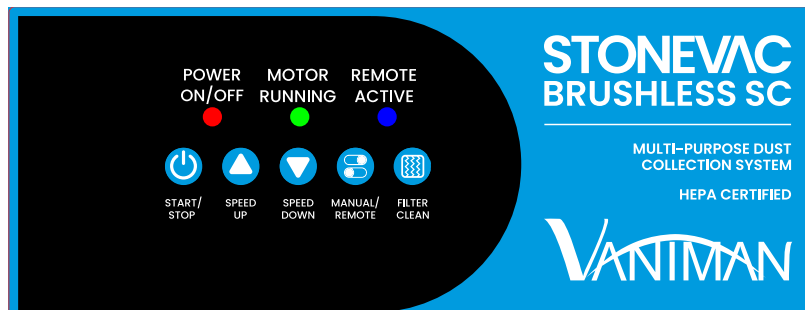
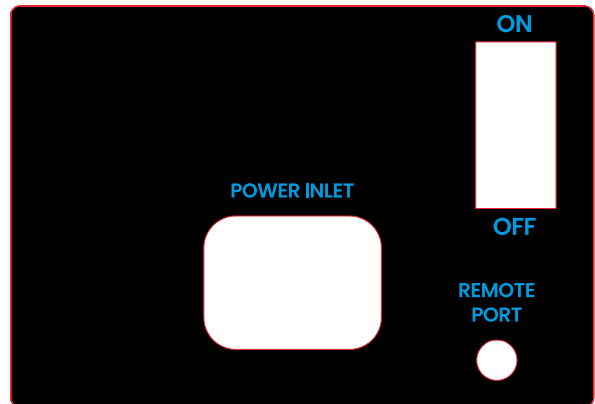

Fig. 1
Fig. 2
5. When you are ready to use your StoneVac, press the button on the front of the unit labeled *START/STOP* (Fig. 1). Once pressed, the motor will begin to run at the lowest available speed and the green LED indicator will illuminate on the front of the StoneVac.
8. Plug the mill remote into the *REMOTE PORT* (Fig. 2) on the back of the unit then press the *MANUAL/REMOTE* button on the front of the unit (Fig. 1). The blue LED indicator on the front control panel will illuminate signifying the unit is being controlled by the connected remote(s). Test this by flipping your remote switch into the *ON* position and the StoneVac will start running at the speed you set it at in step #6.